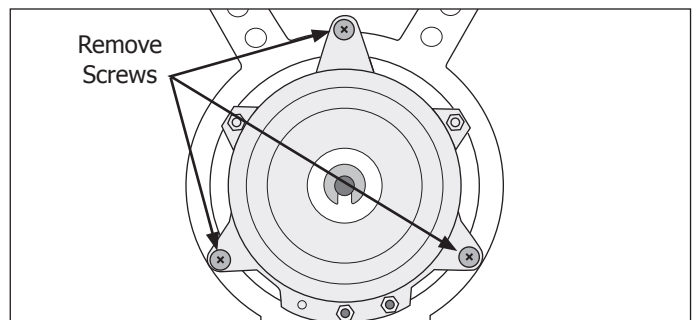

Figure 4-121.
11. Extract the 3 Phillips head screws securing the fan motor to the mounting bracket. The fan motor is now free. (See Figure 4-121)